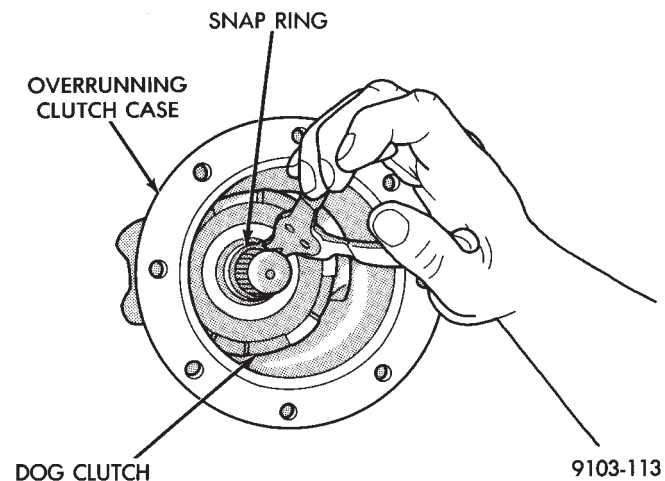

Fig. 14 Dog Clutch Snap Ring
(12) Remove dog-clutch snap ring (Fig. 14).